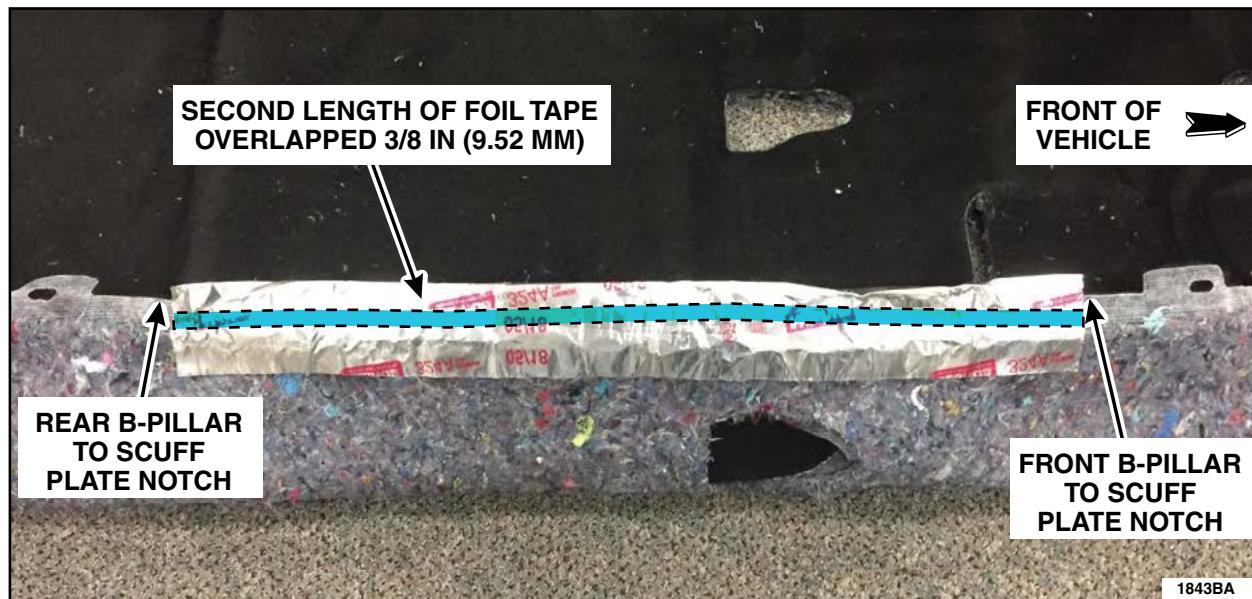

FIGURE 4
6. Apply the second length of foil tape overlapping the first. Start from the front, peeling the paper backing off the tape while applying, overlapping the first length of tape by $\frac{3}{8}$ in (9.52 mm). See Figure 4.